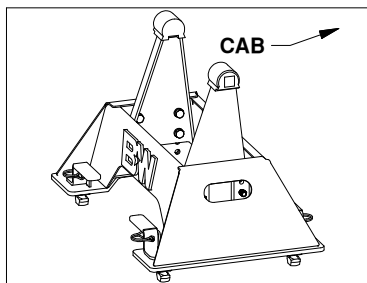
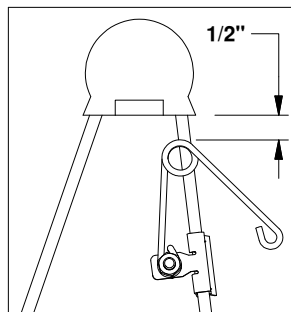

Figure B3: View of base.
Figure B4: Driver
- Attach kit.** Locate the flange which will be closest to the truck cab on the driver side pivot arm, see Figure B3. The clip should be placed so that when the spring's coil is in the line with the edge of the arm there will be 1/2" of clearance between the bottom of the polyurethane bushing and the top of the spring, see Figure B4. Drive the clip securely onto the flange with a hammer.